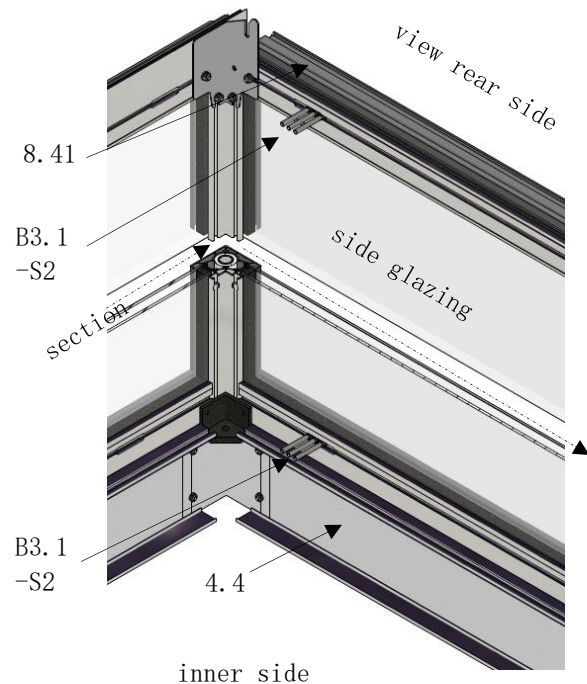
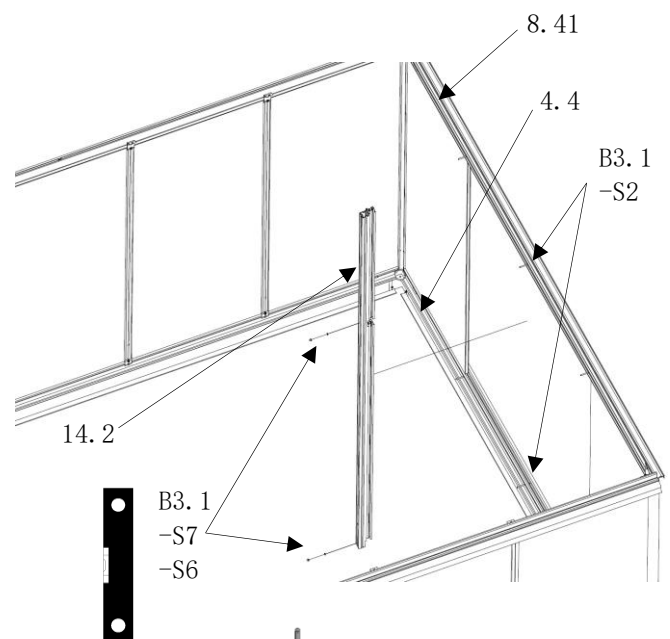

fig. 28
fig. 29
- the six hexagon head screws M6x50 (item B3.1/S2) are inserted into the milled groove of the prefabricated AG-door-track (item 8.41) and the floor profile (item 4.4) and roughly positioned! (fig. 28)
- slide the cut-out from the gable center glazing-bar (item 14.2) into the AG-door-track (item B3.1/8.41). (fig. 29)
- at the same time, insert the two hexagon head screws M6x50 (item B3.1/S2) into the hole in the gable center glazing-bar (item 14.2). (fig. 29)
- screw to the underside of the floor profile (item 4.4) using cap nut M6 (item B3.1/S7) and washer (item B3.1/S6). (fig. 29)
- check the verticality with a spirit level! (fig. 29)
- now screw it to the top of the AG door track (item B3.1/8.41) with cap nut M6 (item B3.1/S7) and washer (item B3.1/S6). (fig. 29)
- the four hexagon head screws M6x50 (item B3.0/S2) are inserted into the milled groove of the prefabricated BG door track (item 8.4) and the floor profile (item 4.4) and roughly positioned! (see page 17 fig. 28)
- slide the cut-out of the gable glazing-bars (repair glazing-bars) (item 12.1/12.2) into the AG-door-rail (item 8.4).
- at the same time, insert two hexagon head screws M6x50 (item B3.0/S2) into the holes of the gable glazing-bars (item 12.1/12.2).
- the cap nuts M6 (item B3.1/S7) and washers (item B3.1/S6) are screwed on at the top and bottom. (see page 21 fig. 29)